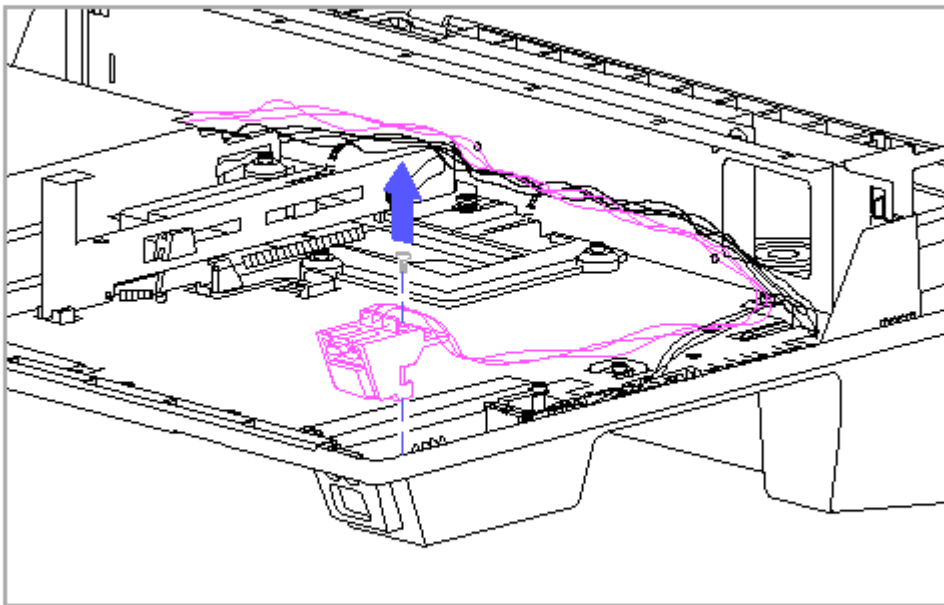

Figure 9-38. Removing the Power Switch from the Top Cover
4. Remove the power switch screw (Figure 9-38).
5. Remove the power switch from the top cover (Figure 9-38).